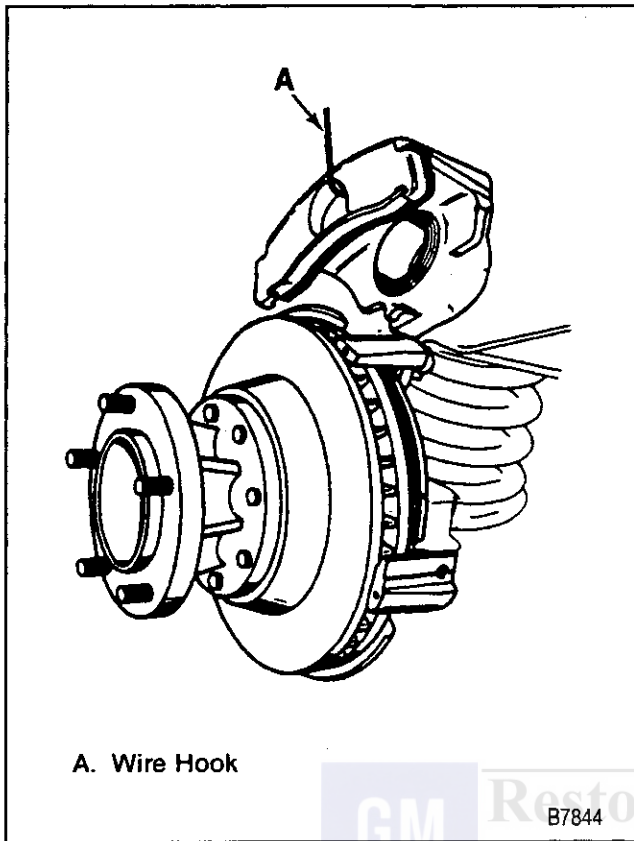

Figure 7—Suspending the Caliper
- Use a brass punch and a hammer to drive the support key out (figure 7).
10. Caliper assembly (1).
- Suspend the caliper (figure 7).